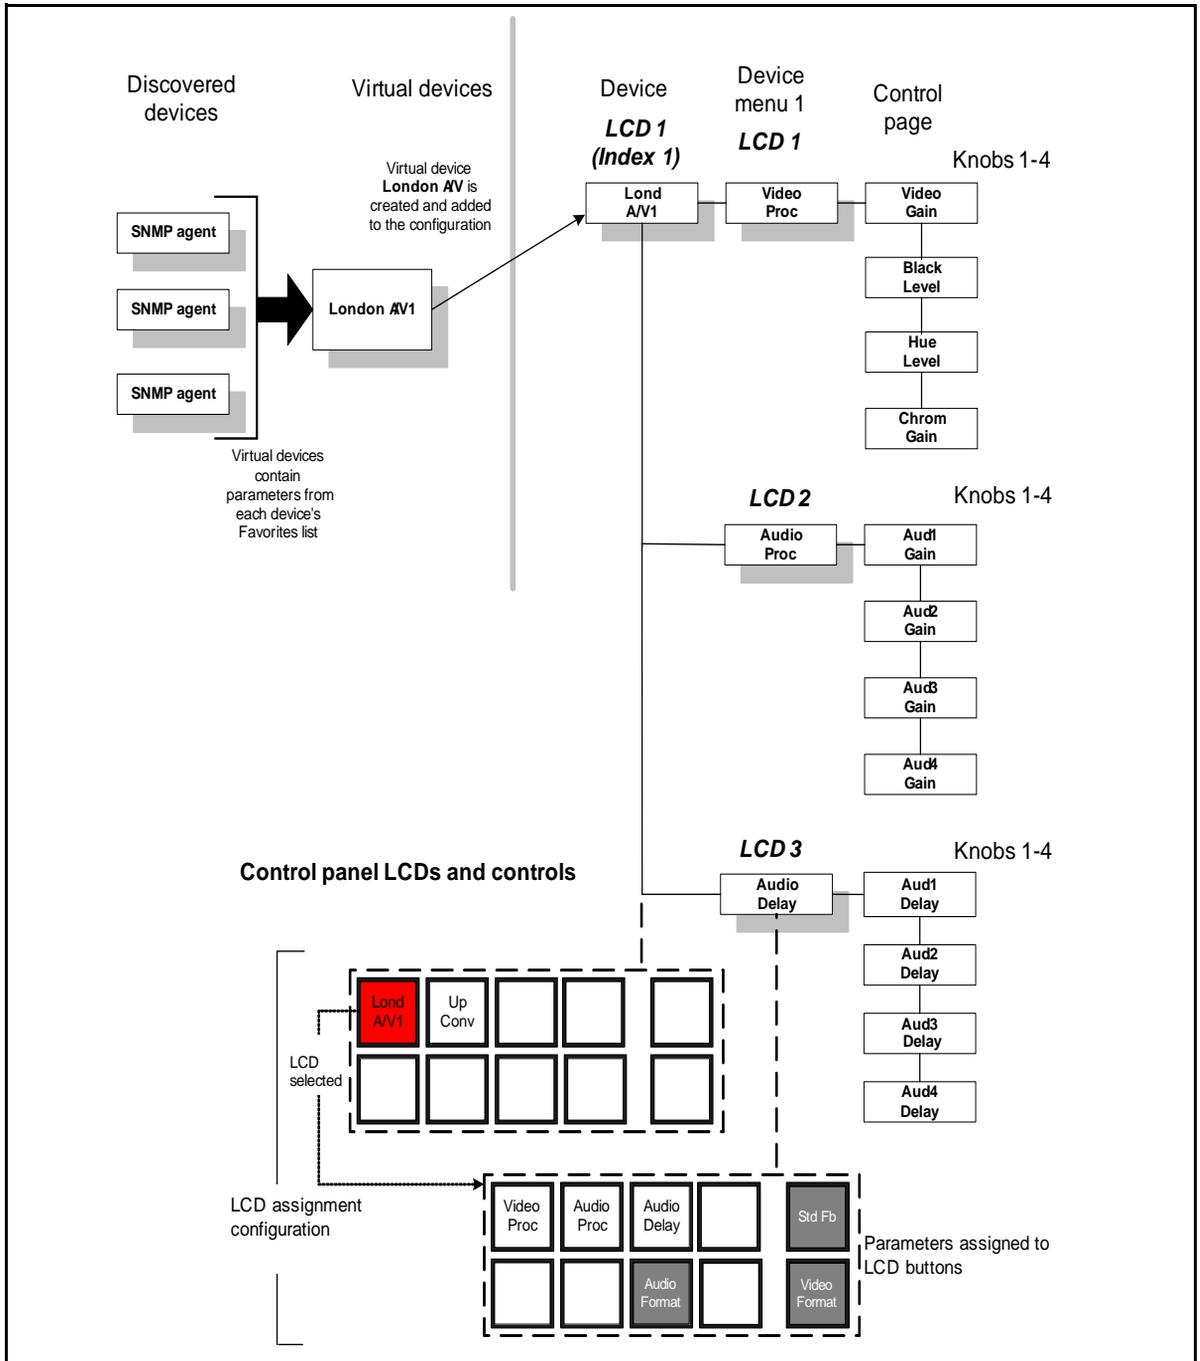

Figure 2-10. LCD Assignment Configuration
- **LCD Assignment**—Using this type of configuration, you can organize your device navigation by individual device names. Each device is accessible through the first level of the control panel's LCD button assignment. Figure 2-10 on page 23 illustrates the organization of a LCD Assignment type of configuration.
Figure 2-10 illustrates an LCD Assignment NUCLEUS configuration.